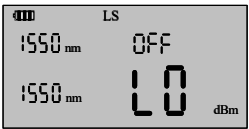
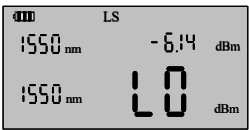

Figure 12 Light Source Mode
Figure 13 Light Source Display
Press **Func** to change between light source (LS) and power meter (PM) mode. The unit operating in light source mode is shown in Figure 12.
The unit operating in light source mode is shown in Figure 12. “OFF” indicates that the light source is off. If the light source is on, a power value or modulation frequency will be displayed in this field. Press the **Ls On** key to power the light source on, as shown in Figure 13. Even if a compatible fiber (5LT35, 5LT35C:10/125 μ m SM fiber, 5LT83: 62.5/125 μ m MM fiber) is used, the output power value measured by the power meter may differ from the displayed light source output power.